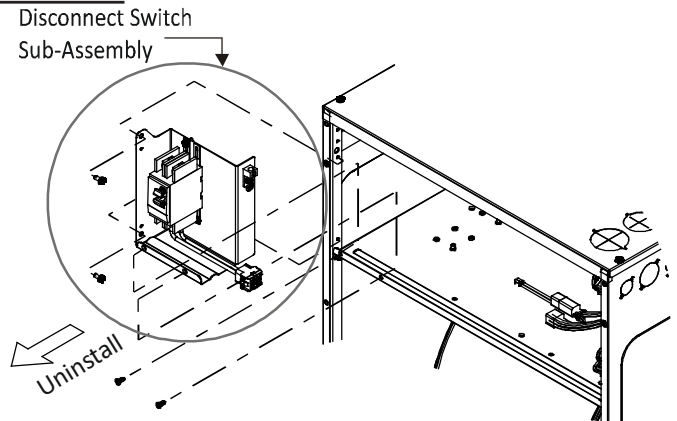

FIGURE 20
**NOTE: AIR HANDLER WITH DISCONNECT SWITCH - ATTACH THE SUPPLY WIRES TO THE DISCONNECT SWITCH TERMINALS AS SHOWN IN THE UNIT WIRING DIAGRAM USING APPROPRIATELY SIZED SOLDERLESS CONNECTORS OR OTHER NEC OR CEC APPROVED MEANS. A GROUND LUG IS ALSO PROVIDED ON THE DISCONNECT SWITCH MOUNT BRACKET (FIGURE 20) IN THE ELECTRICAL COMPARTMENT. THE GROUND WIRE FROM THE POWER SUPPLY MUST BE CONNECTED TO THIS GROUND LUG.**
**NOTE: AIR HANDLER WITH DISCONNECT SWITCH - DO NOT USE DISCONNECT SWITCH ASSEMBLY INSIDE THE UNIT WHILE INSTALLING HEAT KIT. REFER FIGURE 20 TO KNOW HOW TO REMOVE DISCONNECT SWITCH ASSEMBLY FROM UNIT.**